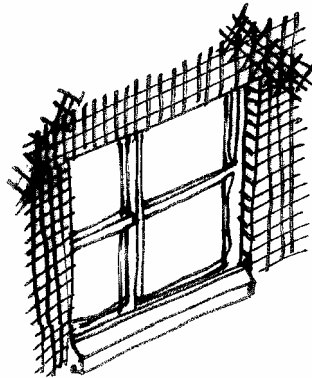

Figure 10.18 – Net reinforcement of exterior plaster
- ❖ **Carefully follow manufacturer’s specifications, especially with respect to the application of the exterior plaster at external corners, lintels and window sills. *Fig10.18***